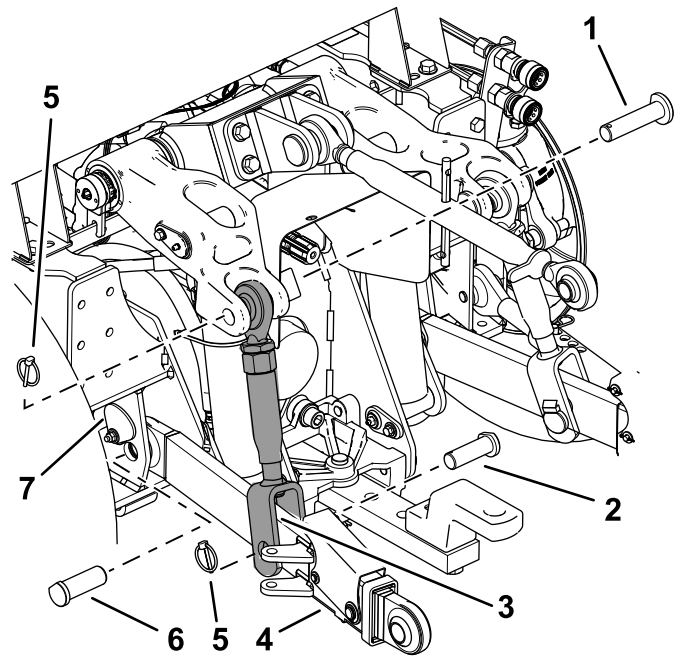
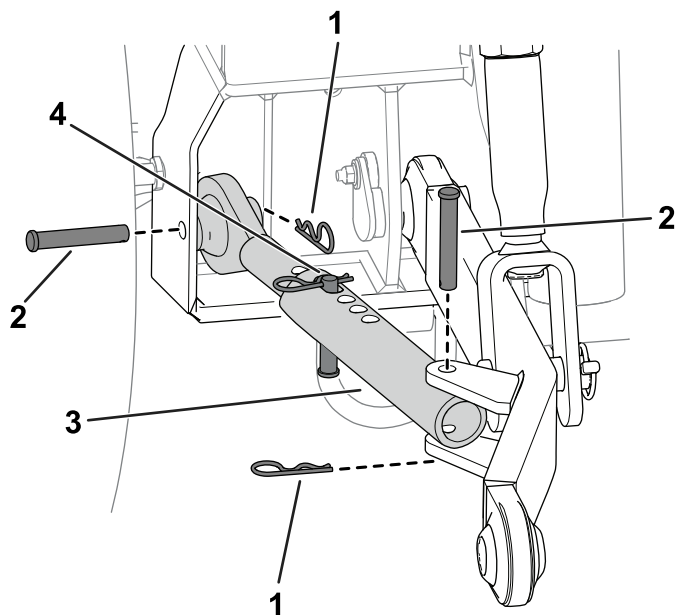

Figure 3
Figure 4
Note: Figure 3 and Figure 4 show link installation on the left side of the machine. Repeat this procedure for the right side of the machine.
1. Use a lift-link pin and a lynch pin to secure the lift link to the machine lift arms (Figure 3).
- A. Raise the pin plate (Figure 3), exposing the pin.
- B. Remove the lower pin (Figure 3).
- C. Position the draft link as shown in Figure 3.
- D. Insert the lower pin through the frame and draft-link joint (Figure 3).
3. Use a clevis pin and a lynch pin to secure the lift link to the draft link (Figure 3).
4. Use a clevis pin and a hairpin cotter to secure the sway links to the machine frame (Figure 4).
5. Use a clevis pin and a hairpin cotter to secure the sway link to the draft link (Figure 4).
6. Install a clevis pin and hairpin cotter to the sway link (Figure 4).